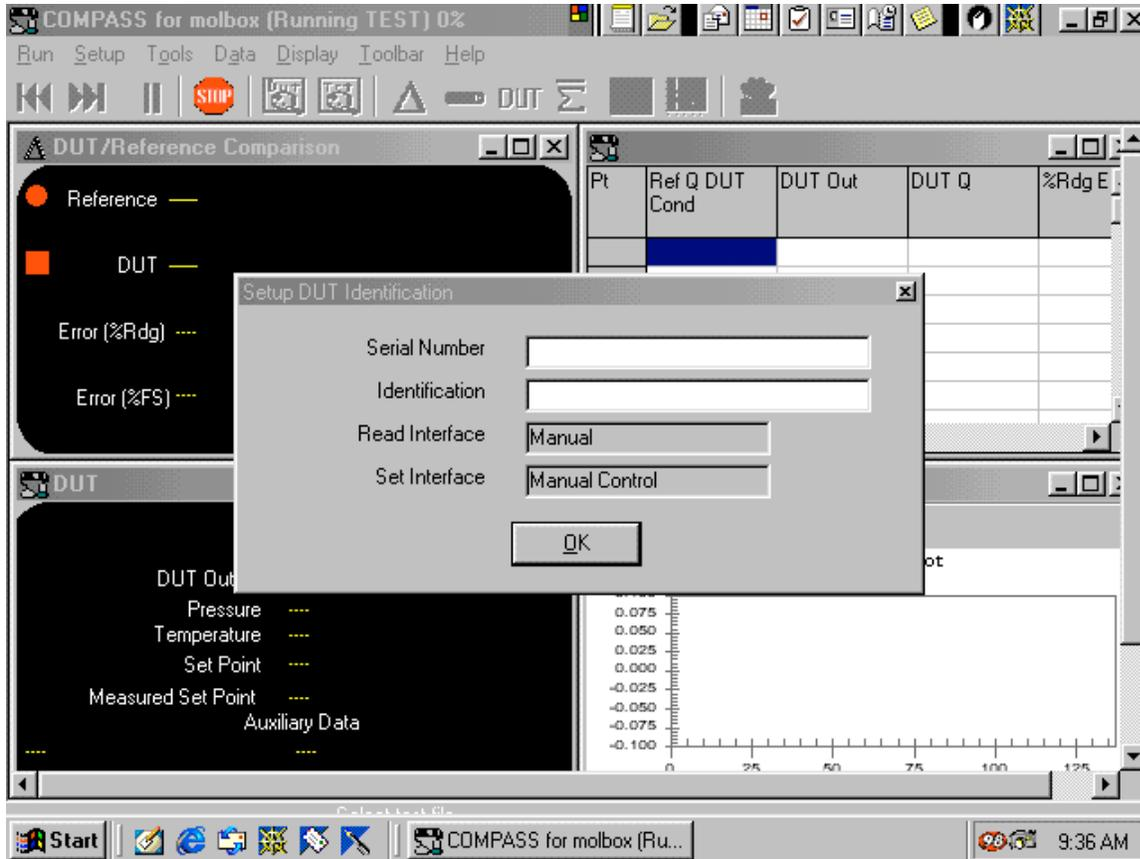

Figure 23 - Enter ID and serial number
11.4.5 Enter the serial number and identification of the DUT (see figure 23).